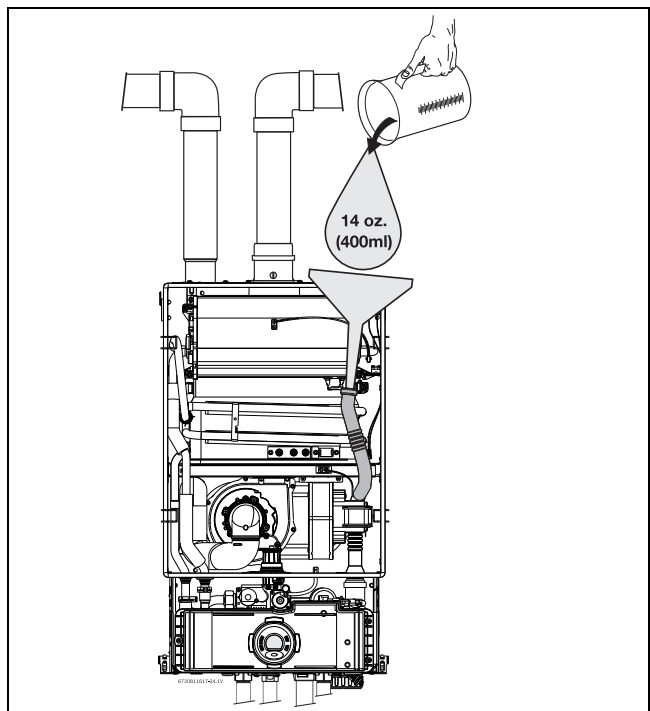

Fig. 40 Filling the condensate trap after installation
- ▶ Fill the condensate trap by pouring approx. 14 oz. (400ml) of water into the top of the drain tube. To avoid damage to the appliance use a funnel in this operation, see fig. 40, page 30.